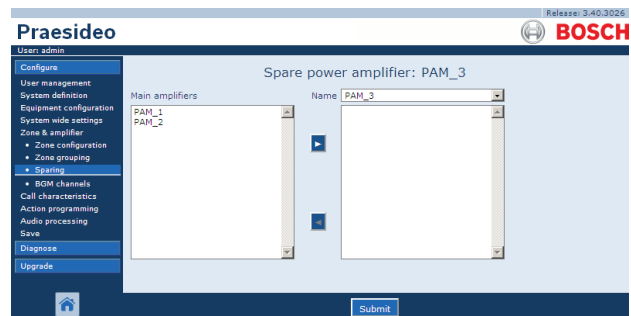

figure 45.12: *Sparing, step 2*
- 2 Select the spare amplifier to which the main amplifier must be assigned from the *Power Amplifier* dropdown list. For example, *PAM\_04* (see figure 45.12).